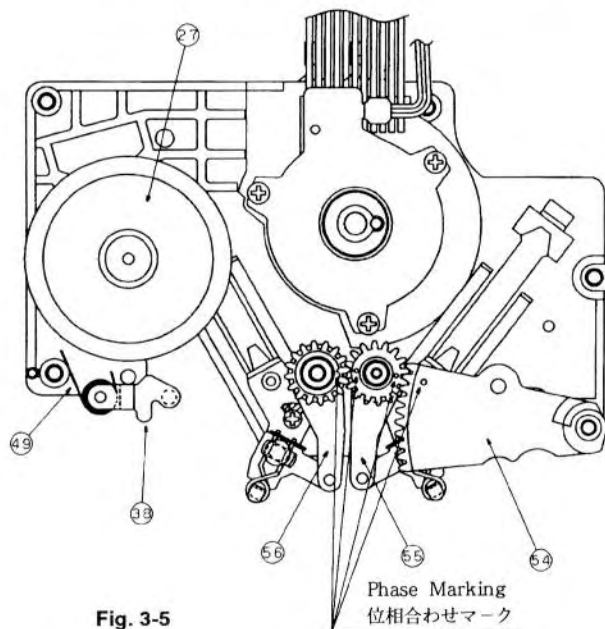

Fig. 3-5
- 1) ③c ワッシャを外し、⑮⑦ Loading Lever Blockを外す。
- See that the phases of the Gear Arm, L1 (IN) Arm, and L1 (OUT) Arm are matched with each other, as shown in Fig. 3-5.
- Gear Arm, L1 (IN) Arm, L1 (OUT) Armの位相は Fig. 3-5を参照。